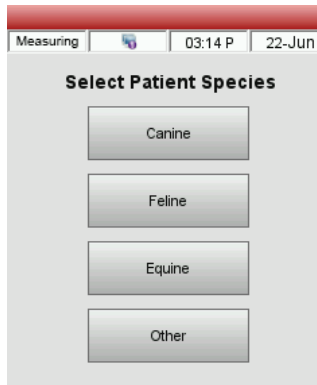

Figure 18. Measurement > Select Patient Species screen
- Select the species (figure 18).